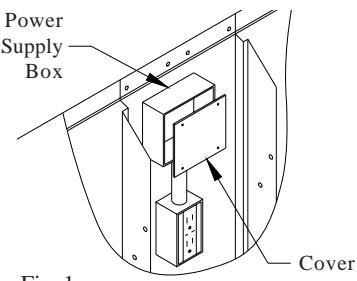

Fig. 1
- Power Supply box.** The power supply box is located in the upper inside of the divider channel. Remove the cover to access wiring. (Fig. 1). Connect wiring in box to power supply wiring as per wiring diagrams.